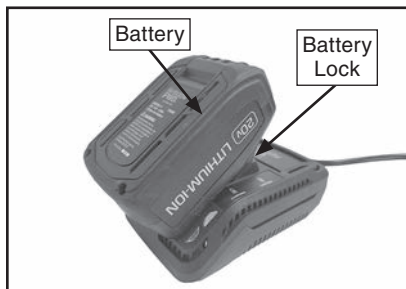

Figure 8. Removal of battery lock.
1. Press battery lock (see **Figure 8**) and remove battery from charger.